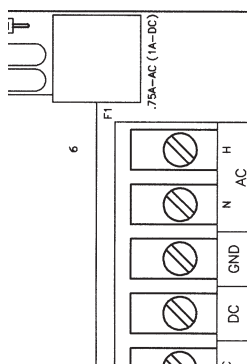
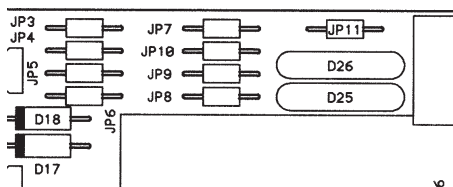

Figure 3.2
Figure 3.4
3. Connect supply power to the appropriate terminal locations on the upper right corner of the main circuit card. See **Figure 3.2**. Verify that the power supply selection jumpers are configured properly—See **Figure 3.4**.
It is recommended not to run line power with other signal wires within the same wiring tray or conduit. Verify that the power supply jumper connections are oriented correctly for the power source being wired. The electronics can be damaged if improper power is connected or if jumpers are not installed correctly. The DC input is not fuse protected. It is recommended that an external fuse be installed if DC power is selected. The fuse should be a 1A delay action type. See **Figure 3.4**